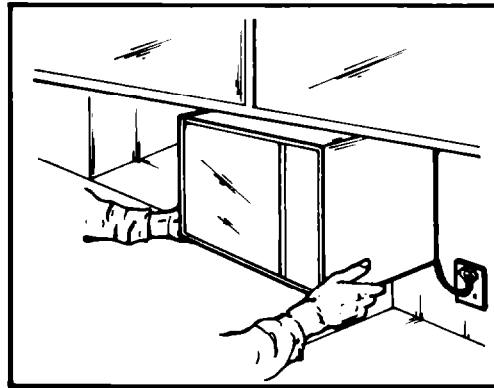

Fig.5
- Be sure that a three prong (grounding) wall receptacle is within reach of the electrical cord when properly draped. **The wall receptacle cannot be behind the oven when installed because the plug on the oven power cord will prevent proper oven installation.** (See Fig.5 for an example of this.)